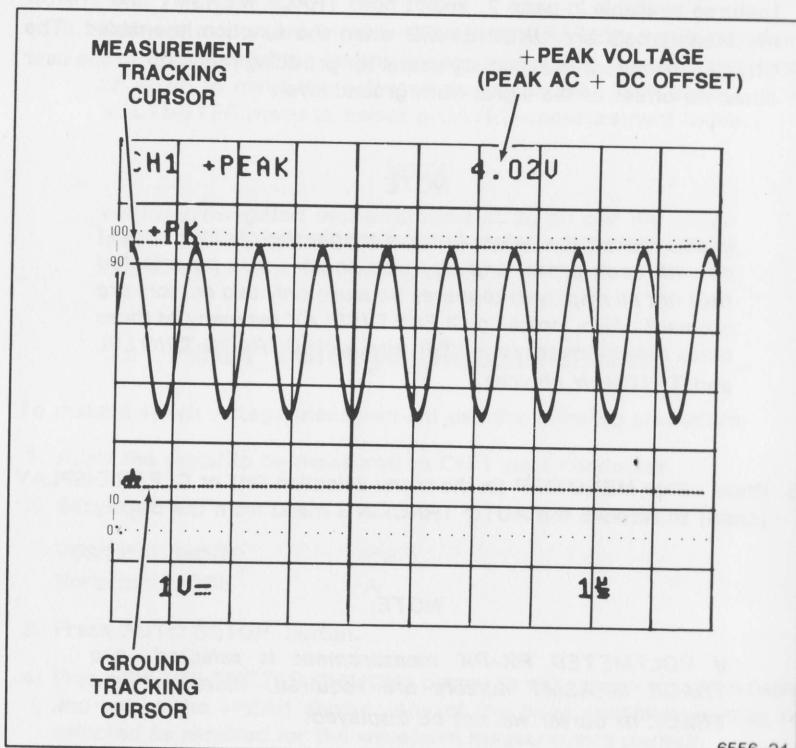

Figure 5-1. +PEAK voltage measurement and tracking cursors.
7. See Figure 5-1. The test signal used for the example has a dc offset (as shown by the position of the TRACK m cursor) and +PEAK value (peak ac + dc) as indicated by the voltage readout.